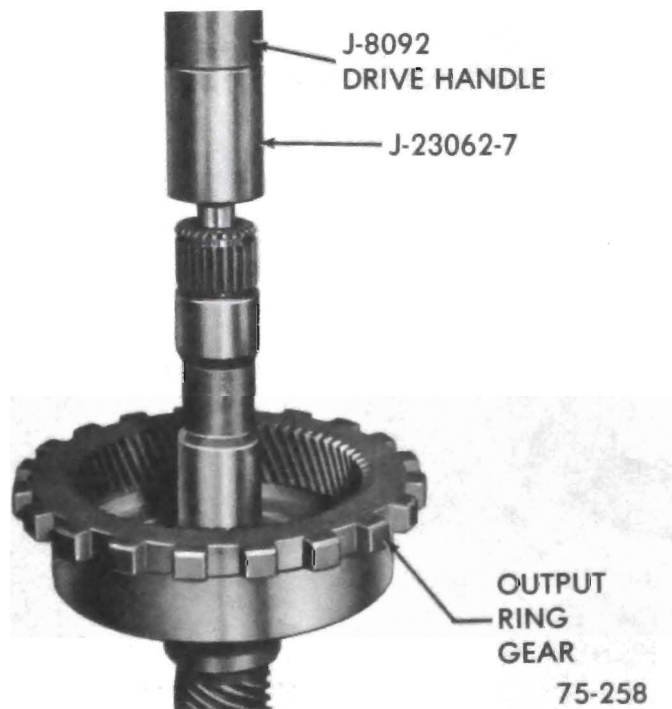

Figure 75-116
b. Using Tool J-23062-7, assembled into Drive Handle J-8092, press in new bushing .140" below end surface of shaft. See Figure 75-116.